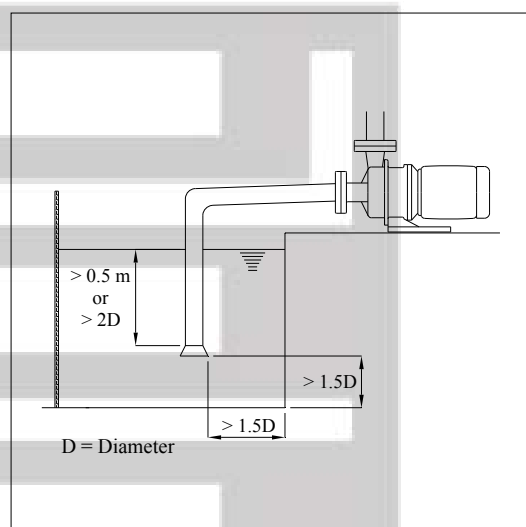

Fig. 4.4
Suction piping	<p>(1) There should be at least a 1.5D distance between the suction pipe inlet and the closest tank wall to prevent circulation (see Fig. 4.4).</p> <p>(2) The submerge depth of the suction pipe inlet should be at least 0.5m or at least 2D below the liquid surface (see Fig. 4.4).</p> <p>(3) There should be a distance of at least 1.5D between the bottom of the tank and the suction pipe inlet (see Fig. 4.4).</p> <p>(4) If there are two or more inlet piping in the same tank, they should be placed at least 3D apart to prevent mutually disrupting each other's flow.</p>